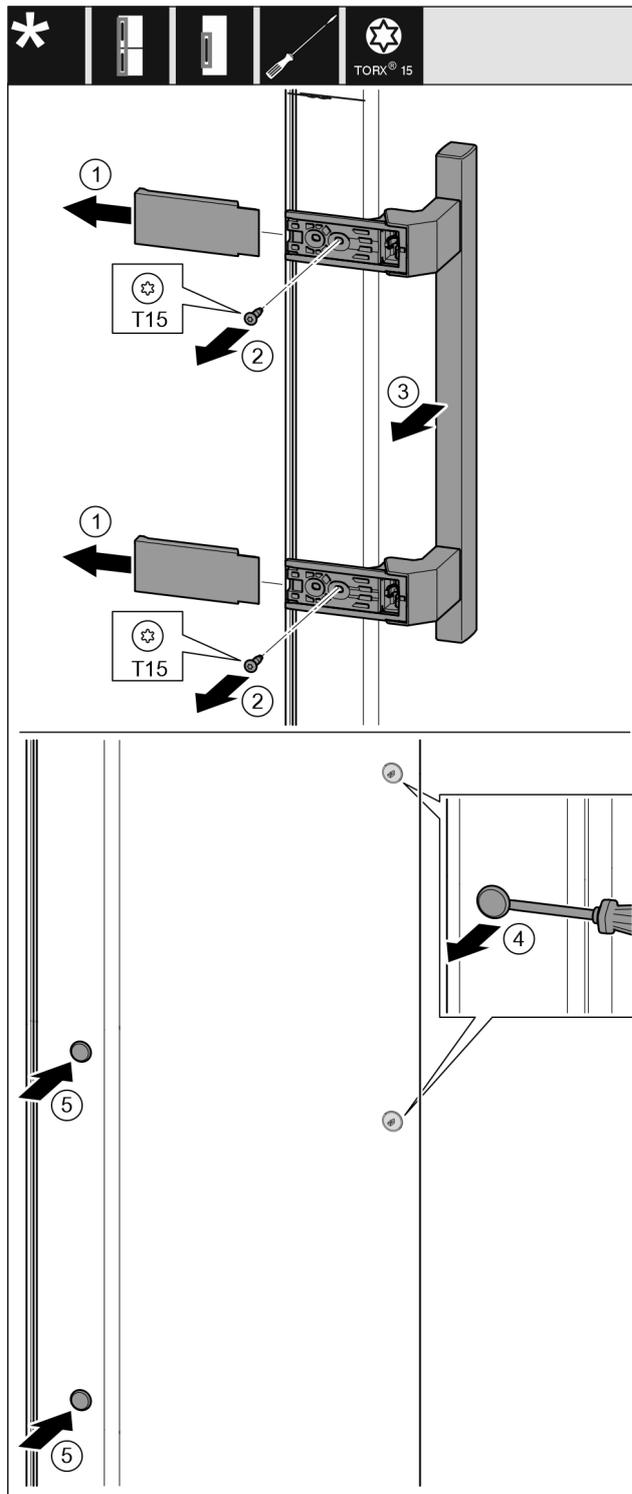

Fig. 28
- Remove the cover. Fig. 28 (1)
- Use screwdriver T15 to unscrew the screws. Fig. 28 (2)
- Remove the handle. Fig. 28 (3)
- Use a slotted screwdriver to lift the side plug carefully and pull it out. Fig. 28 (4)
- Re-insert the plug on the other side. Fig. 28 (5)